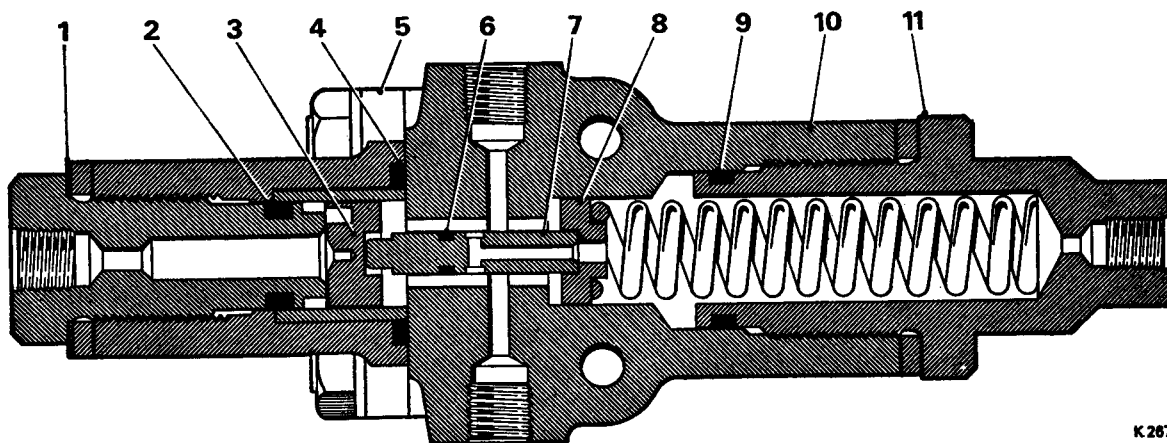

FIG. G27 SECTIONAL VIEW—ROLL RESTRICTOR VALVE
2. Note also the position of the adjusting washers and the restrictor valve (*see Fig. G27*).